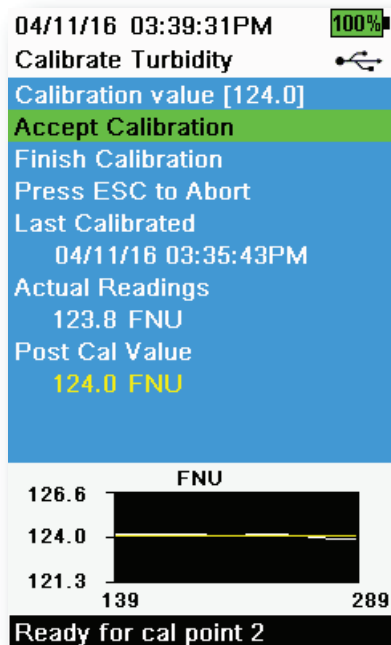

Figure 55 Calibrate Turbidity
10. Observe the actual measurement readings for stability (white line on graph shows no significant change for 40 seconds), then select **Accept Calibration** (Figure 55). "Ready for cal point 3" will be displayed in the message area.